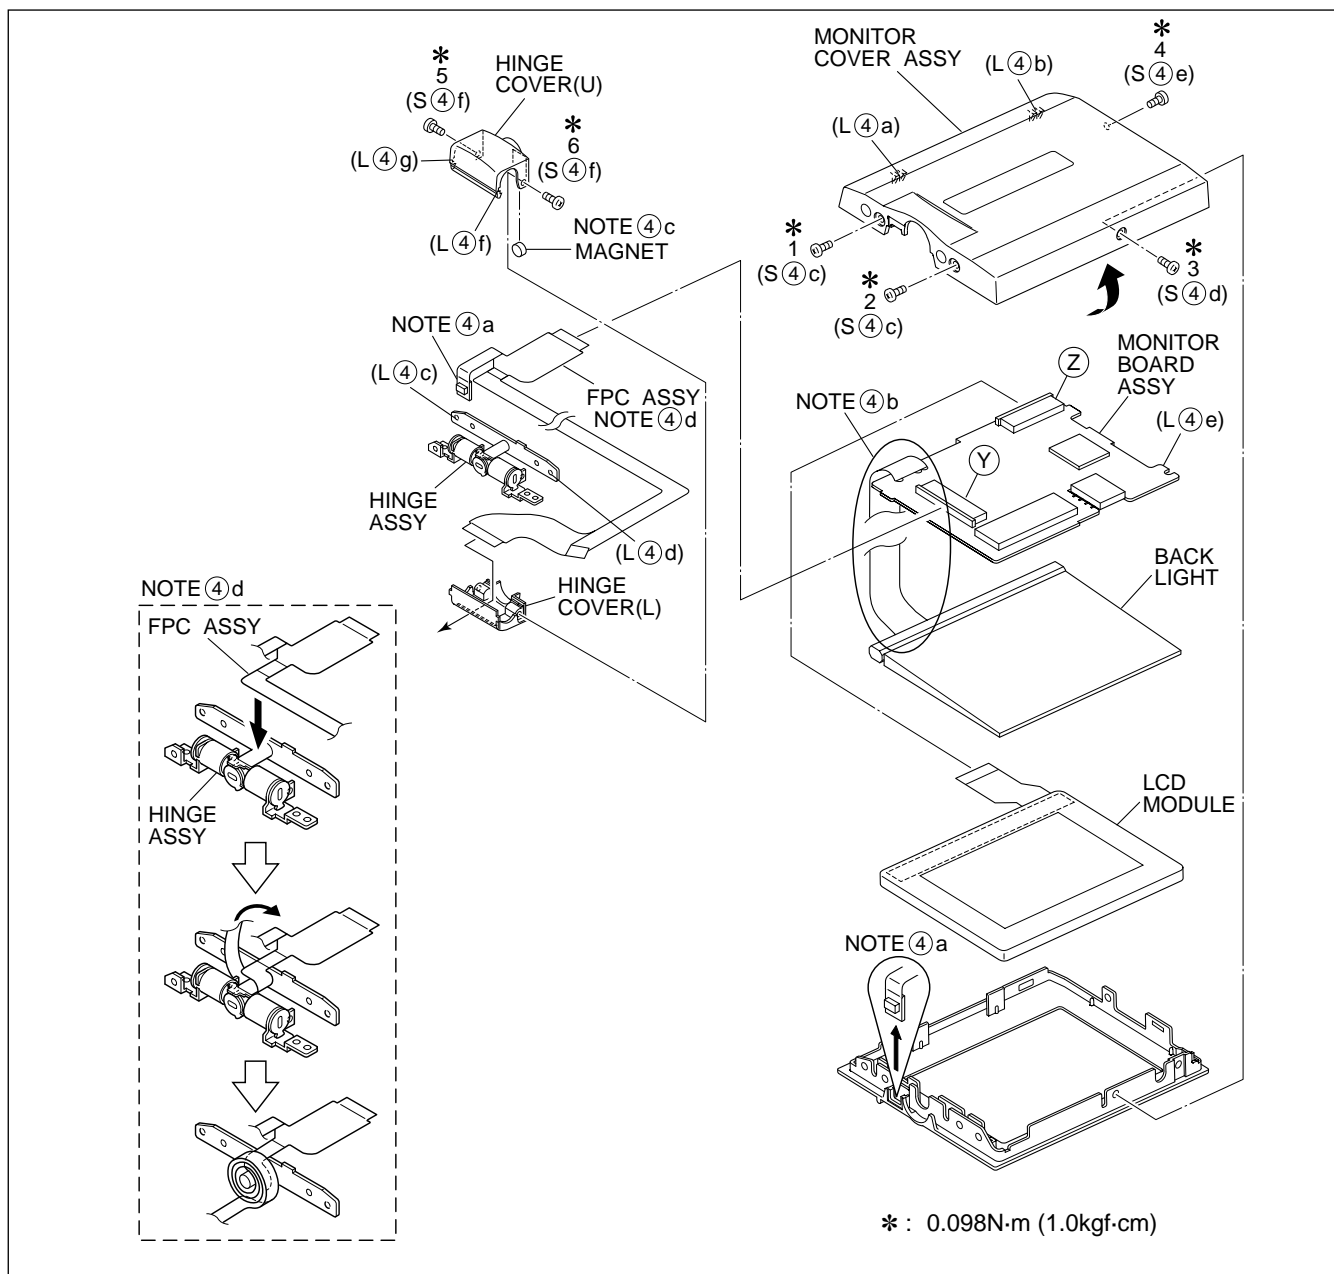
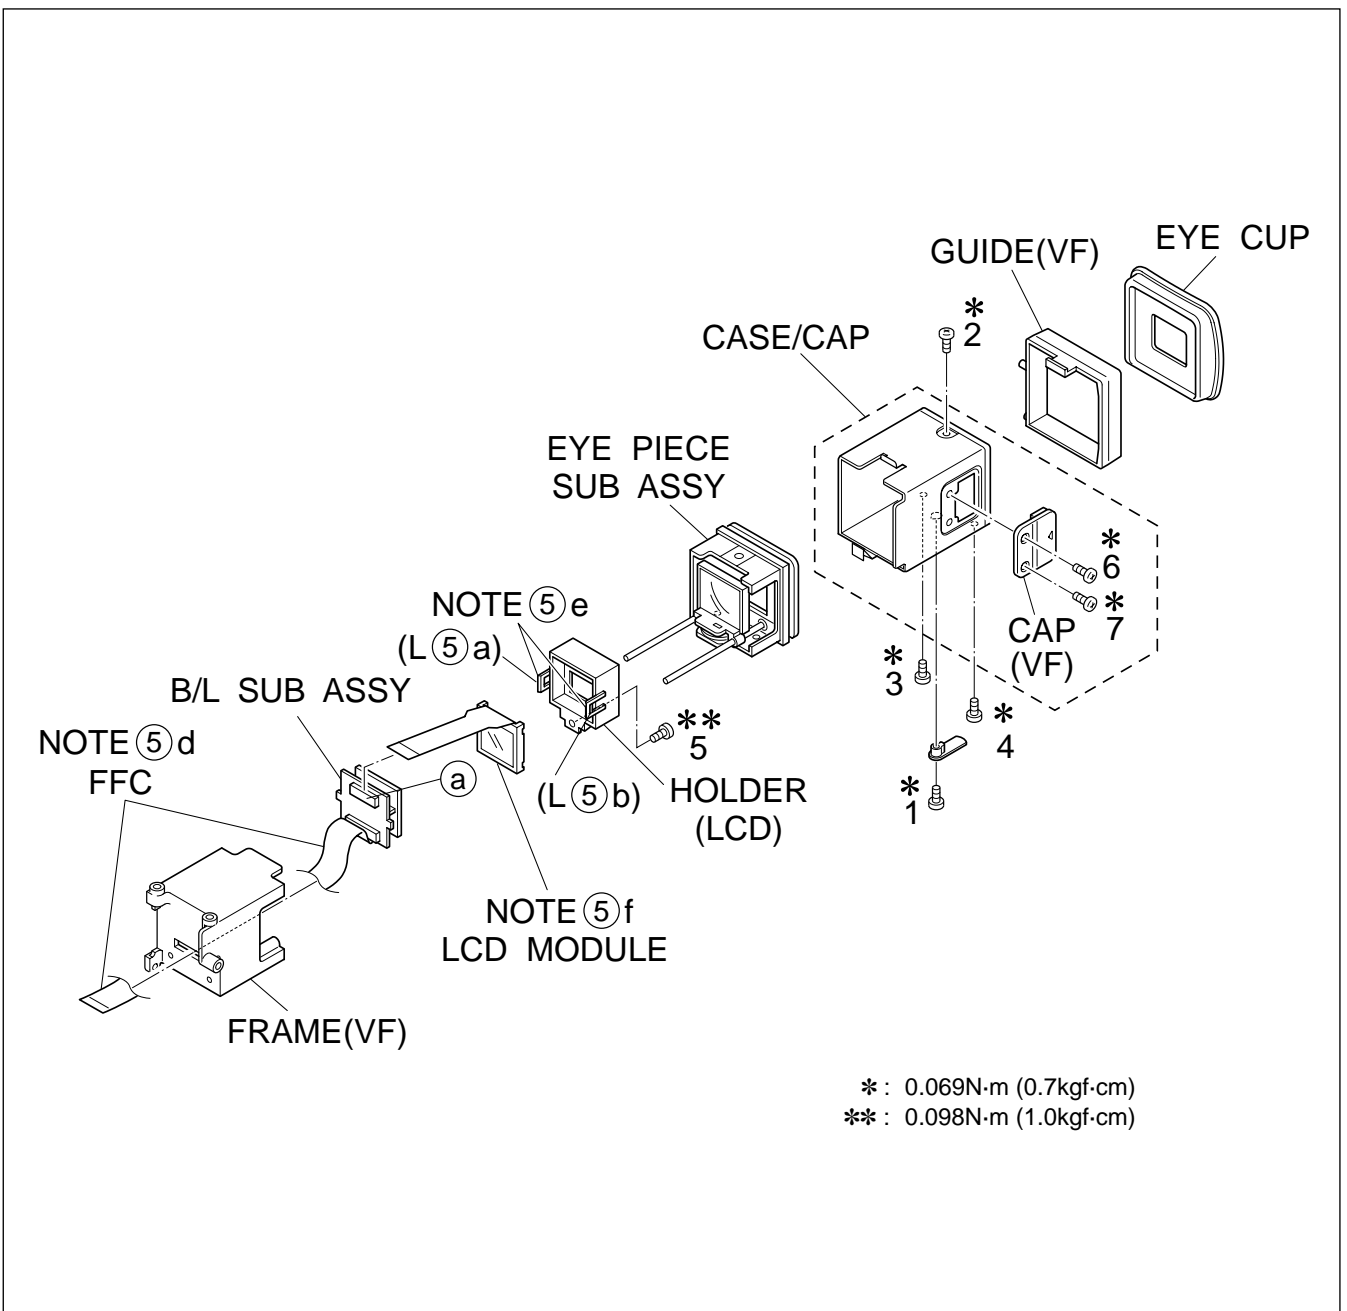
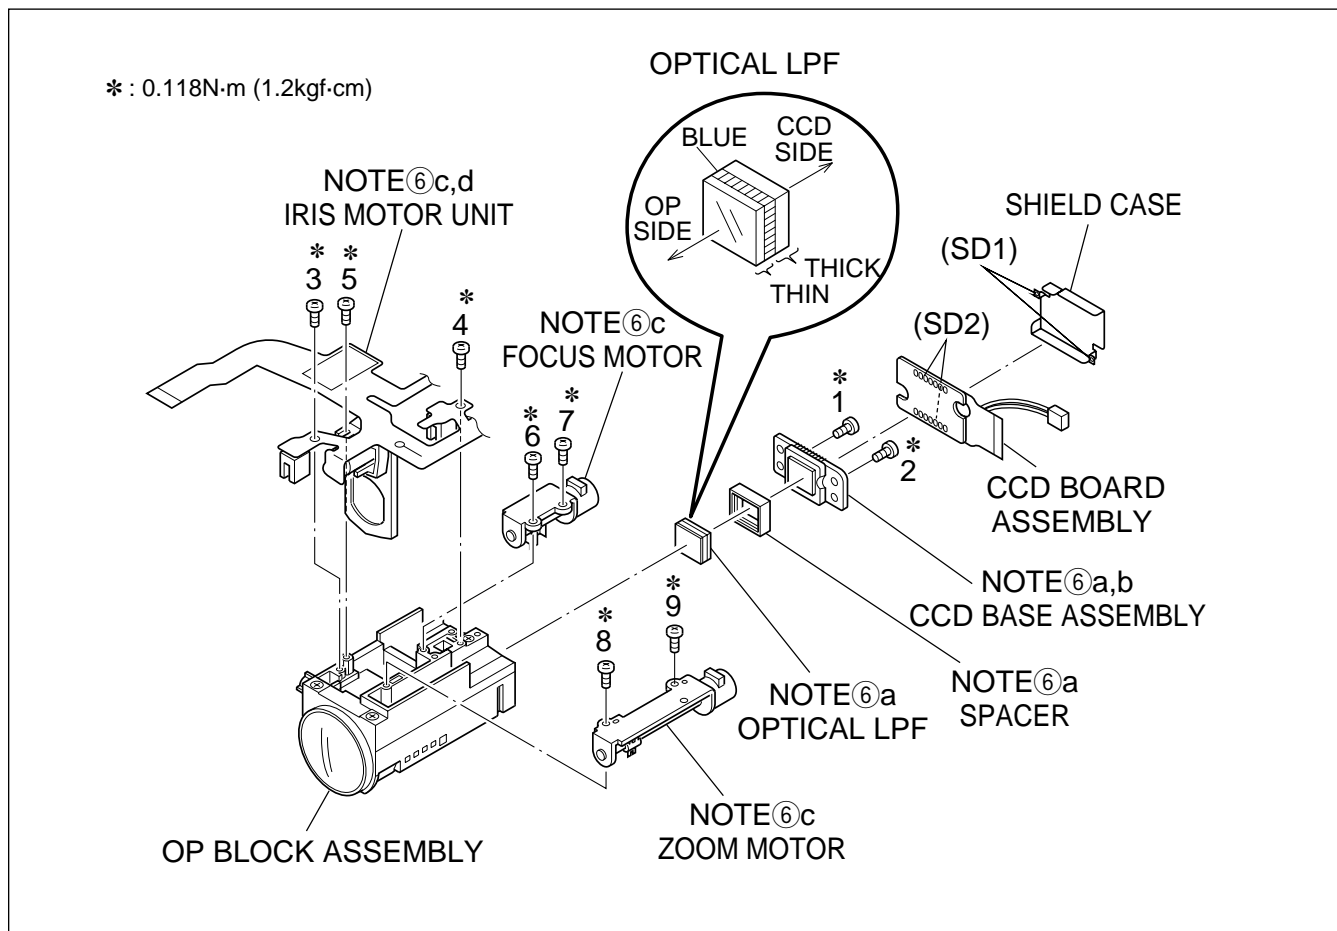

Fig. 1-4-1
Fig. 1-5-1
Fig. 1-6-1
- Note③a:** When removing, be careful not to break the wire.
- Note③b:** When removing, be careful not to damage any part. On removing, slightly open the front side so as to shift it from the frame.
- Note④:** For disassembling method, refer to Fig. 1-4-1.
- Note⑥a:** When removing, be careful not to break the wire.
- Note⑥b:** Remove the board assembly (MAIN/MDA) and mechanism assembly together.
- Note⑥c:** When installing, arrange the wire between the OP block assembly and VF assembly.
- Note⑦a:** When removing, be careful neither to break the wire nor to damage any part.
- Note⑦b:** For disassembling method, refer to Fig. 1-6-1.
- Note⑧:** Be careful not to get an electric shock during the work.
- Note⑨:** When reassembling, carefully arrange the wire.
- Note⑩a:** When disassembling/reassembling, be careful not to damage any part.
- Note⑩b:** When reassembling, set the bracket (top) as the VF unit is pulled out, and secure the installation in order of (L⑩a) and (L⑩b).
- Note⑩c:** For disassembling method, refer to Fig. 1-5-1.
- Note⑫a:** When disconnecting the connector, carefully handle the FPC on the top of the connector.
- Note⑫b:** Disconnect the connector ㉓ last, because it is positioned inside.
- Note⑬:** When reassembling, carefully locate the FPC so that it is sandwiched between the mechanism assembly and MAIN board assembly.
Reference drawing →	Fig. 1-4-1
Reference drawing →	Fig. 1-6-1
Reference drawing →	Fig. 1-5-1